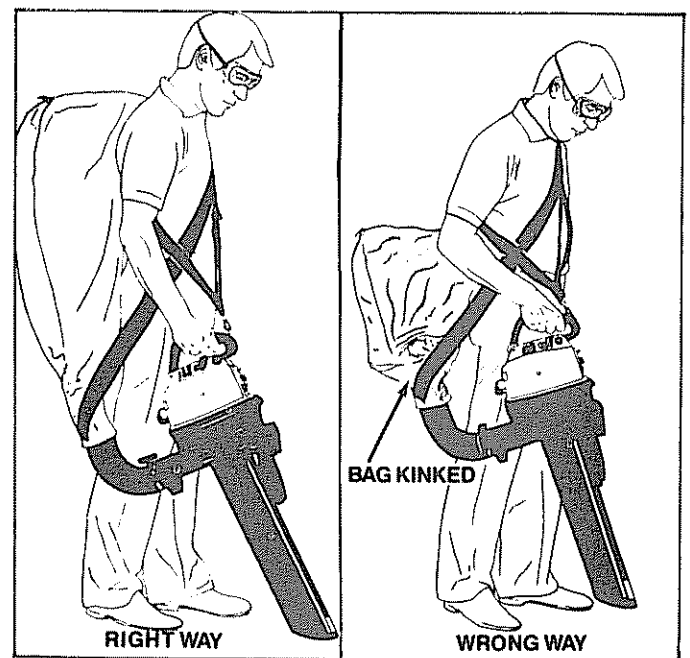

Figure 7
- Make sure the collection bag strap is adjusted to allow a free flow of air from the elbow tube as shown in Figure 7. If the bag is kinked, the unit will not operate properly.